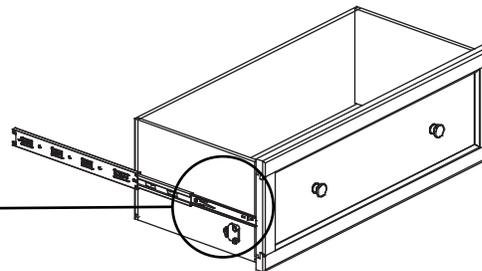

Fig. 5
- If you need to remove your drawers, pull up on the left Drawer Release Lever while pushing down on the right Drawer Release Lever and pull out the drawer. See Figures 5 and 5a. Note where each drawer came from to make sure you place them back into their correct positions.